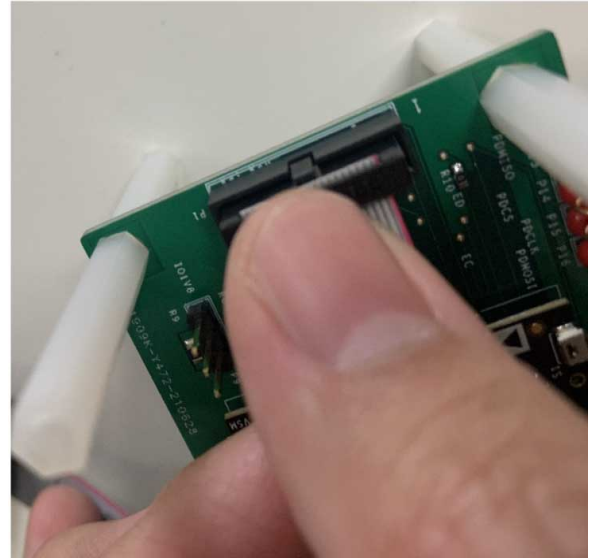
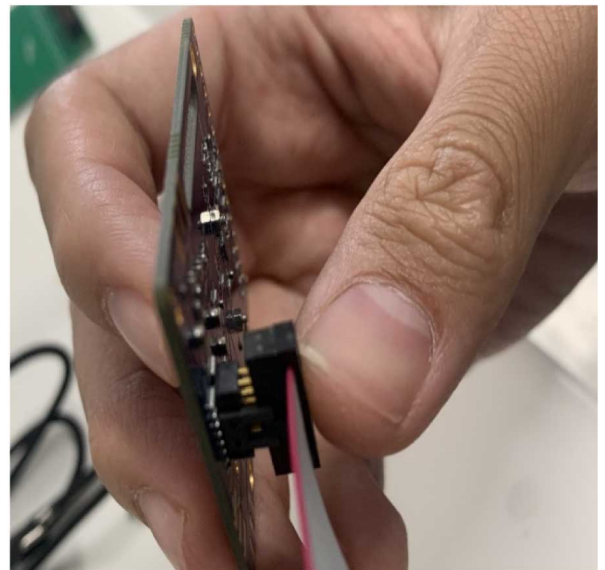

Figure 4. EVAL-VSMUCZ Connection
Figure 5. EVAL-ADPD6000 Connection
2. Connect the EVAL-VSMUCZ to the EVAL-ADPD6000Z (see Figure 4 and Figure 5). Ensure the EVAL-VSMUCZ and EVAL-ADPD6000Z have the same number of pins, and that the pin numbers match.